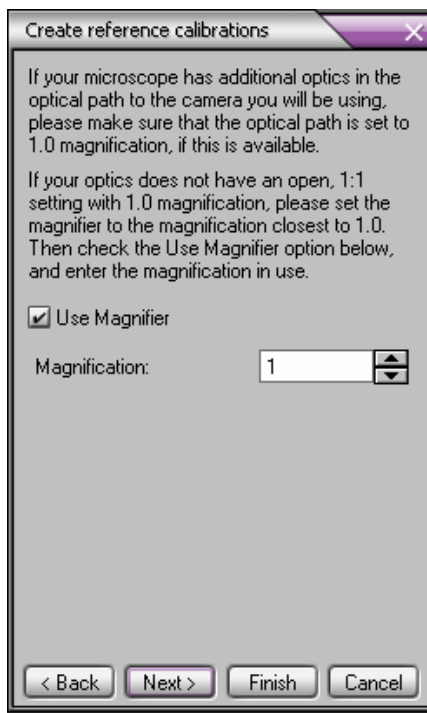

Figure 4. Indicating Additional Magnification
- Click ‘Next>’ to access the magnifier options (Figure 4).